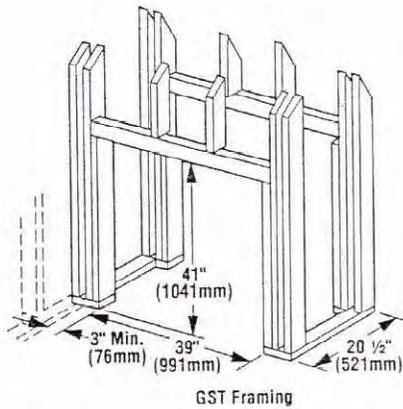

Figure 1
**Step 1.** Frame fireplace enclosures as illustrated in Figures 1, 2, 3 or 4.